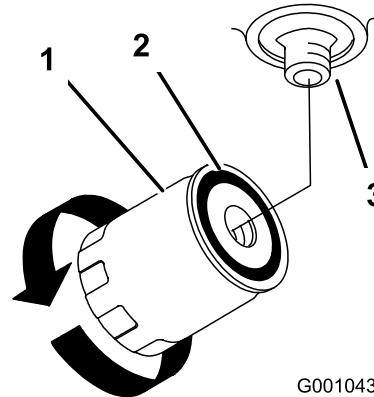

Figure 72
7. Apply a thin coat to the rubber gasket on the replacement filter (Figure 72).
9. Fill the hydraulic tank with hydraulic fluid until the fluid overflows the filter and then turn the oil filter clockwise until the rubber gasket contacts the filter adapter, then tighten the filter an additional 1/2 turn (Figure 72).